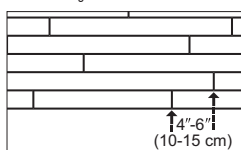

Figure 4
- Be attentive to staggering the ends of the boards at least 4"–6" (10–15 cm), when possible, in adjacent rows (Figure 4). This will help ensure a more favorable overall appearance of the floor.
- End-joints of adjacent rows should be staggered a minimum of 4"–6" (10–15 cm), when possible, to ensure a more favorable overall appearance (Figure 4).
- Check for a tight fit between all edges and ends of each plank. End-joints of adjacent rows should be staggered 4"–6" (10–15 cm), when possible, to ensure a more favorable overall appearance (Figure 4).